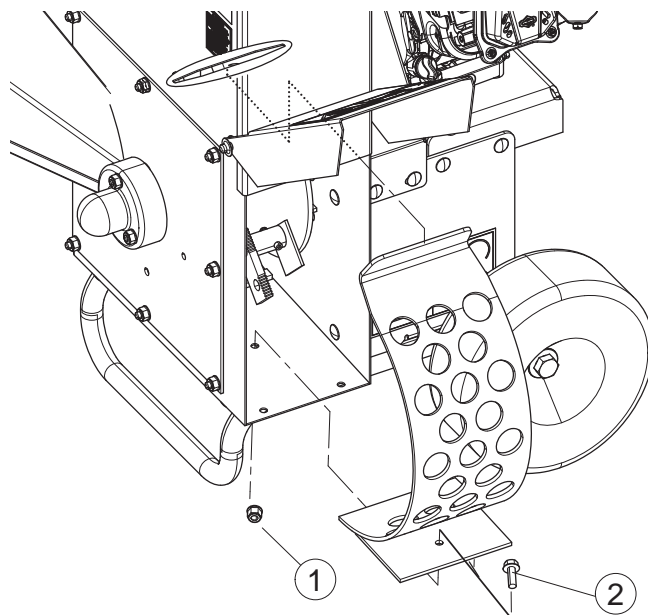

Figure 5.8, Changing the Discharge Screen
3. Remove the 5/16" × 7/8" carriage bolt (1) and flange nut (2) securing the discharge screen to the frame (Figure 5.8). Pull discharge screen out from the bottom and rotate the top downward to remove.